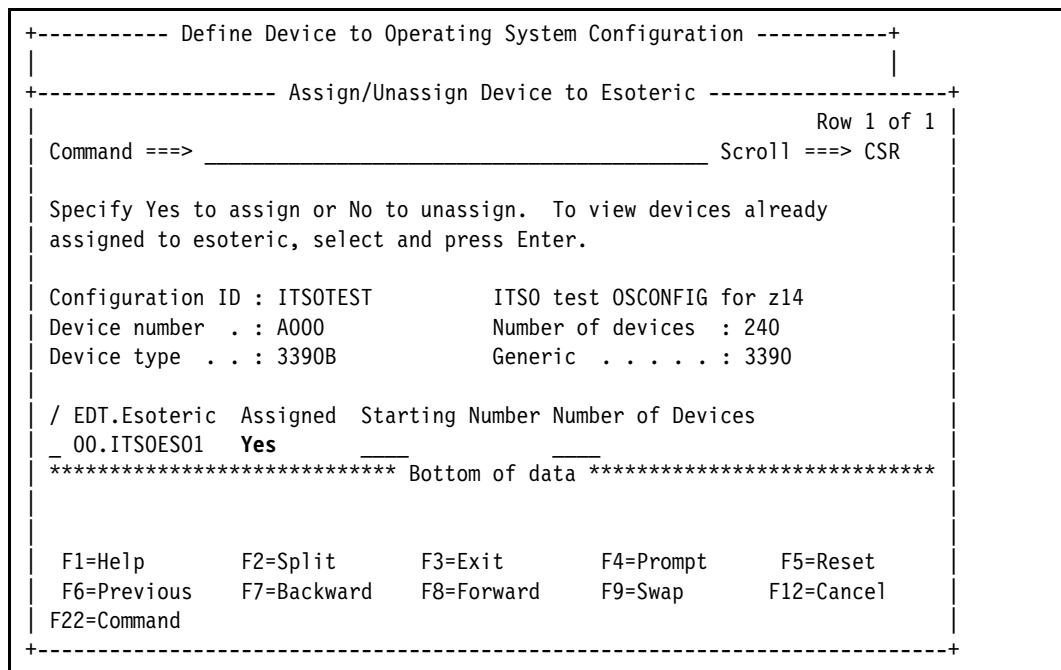

Figure 12-18 I/O Devices: Assign/Unassign Device to Esoteric
8. Make the following updates to Assign/Unassign the Device to Esoteric (Figure 12-18), and press **Enter**: